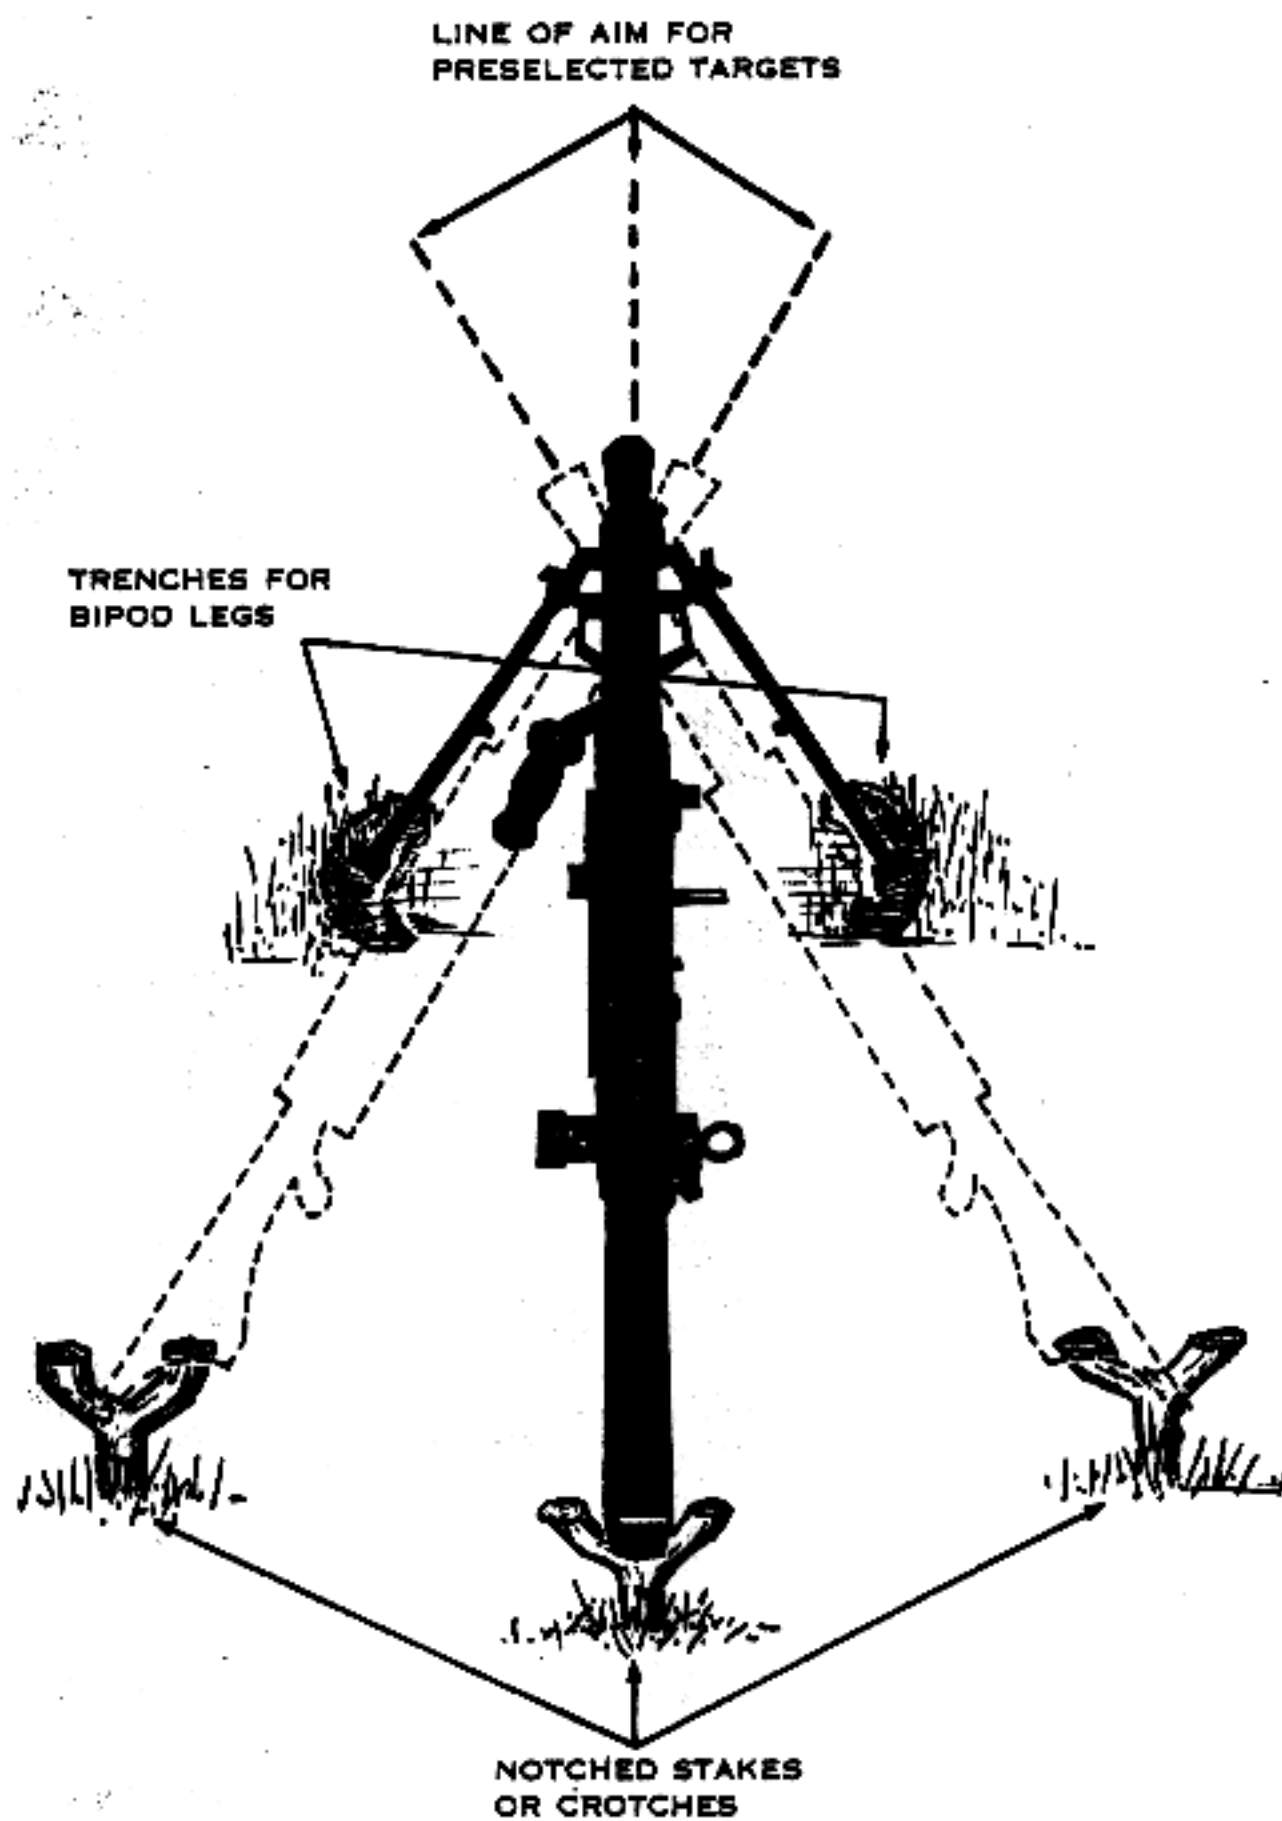

Figure 90. Notched stake or tree crotch technique of engaging preselected targets.
- (2) *The notched stake or the tree crotch technique* (fig. 90). The notched stake or the tree crotch technique is used with the bipod mounted gun to engage preselected target areas within a sector, or to define sector limits. This method is effective during all conditions of visibility and requires a minimum or additional material.